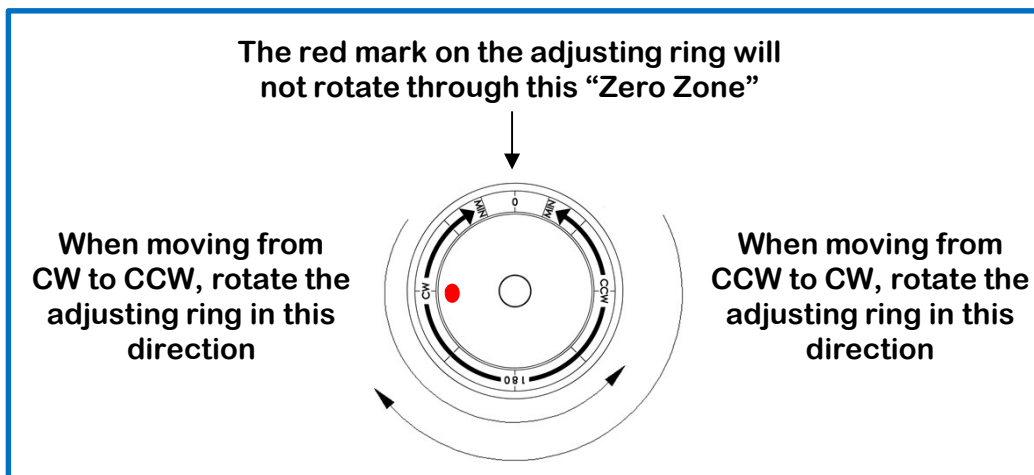

Figure 9: Adjusting ring movement
Turn the adjusting ring to the desired swing angle in either the CW or CCW field. If you are changing swing direction (CW/CCW) always move away from the “Zero Zone” indicated in Figure 9, and **PAST** the 180° mark (by at least 5°). Once you have passed the 180° mark, the Sensor will operate in the CW or CCW field it is in. **The adjusting ring will not move through the “zero zone”**. Once the desired swing direction and swing angle are set, tighten set screw (A).